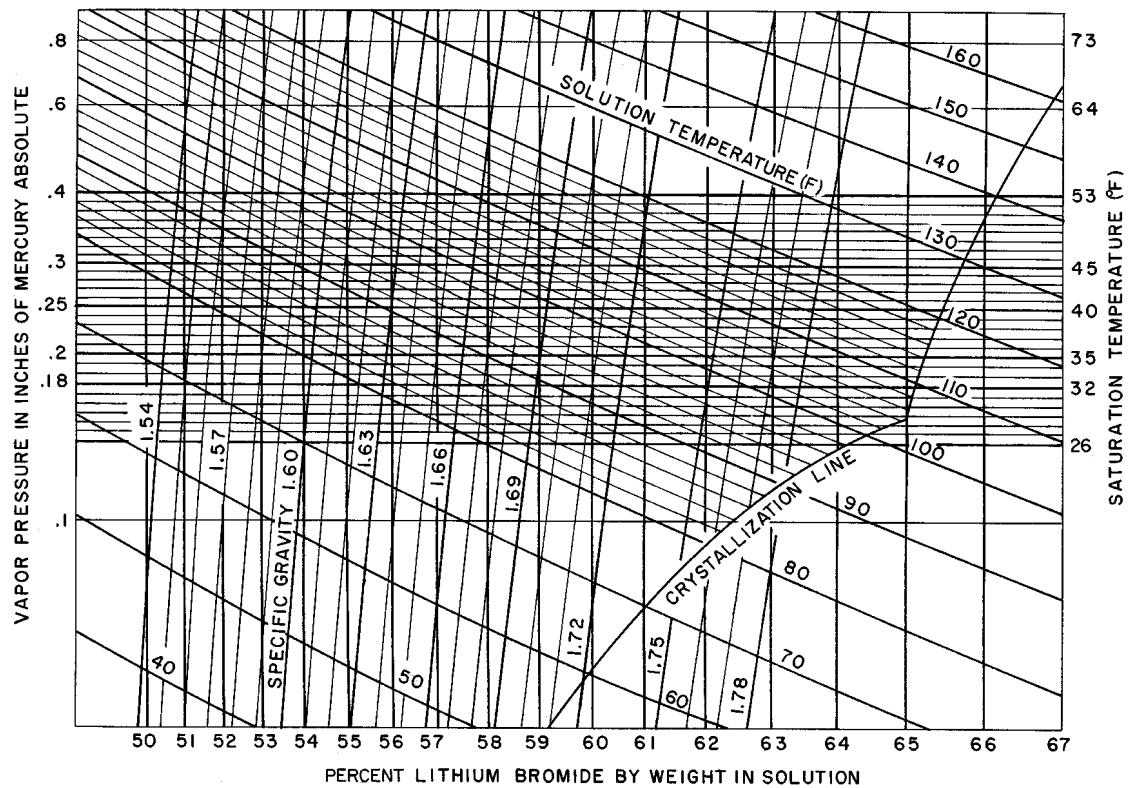

Fig. 30A — Equilibrium Diagram for Lithium Bromide in Solution (°F)
- Locate the intersection point of the specific gravity and temperature values on equilibrium diagram (Fig. 30A or 30B). Read down from this point to the solution concentration scale to determine the percent lithium bromide by weight in the weak solution.